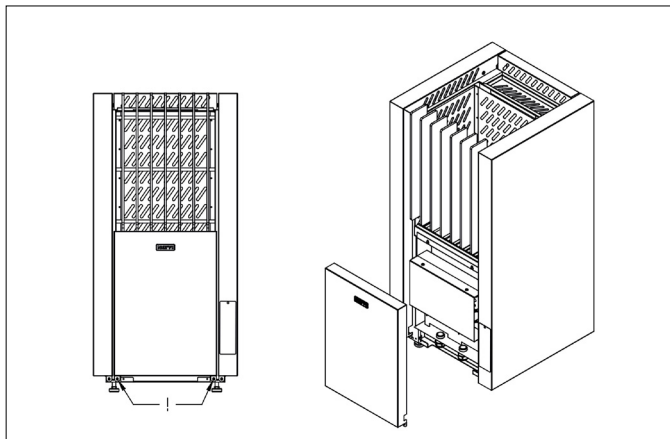

Figure 3. Remove the screws
- The service flap can be opened by loosening the screws. (Fig. 3)